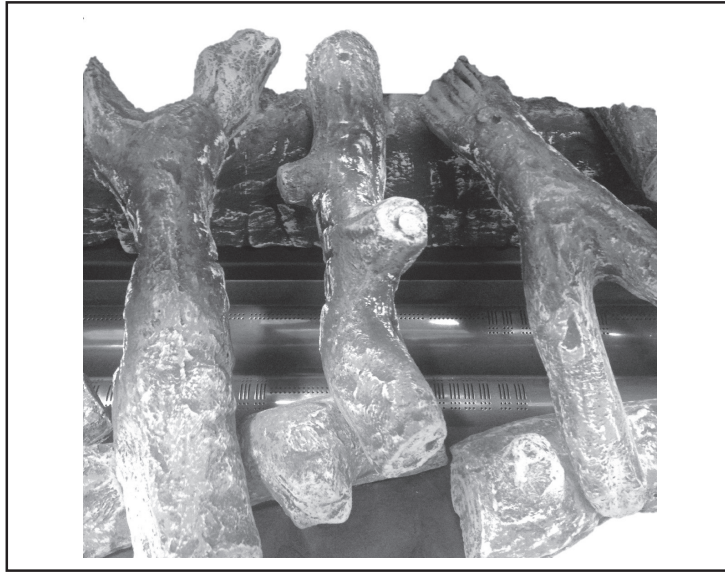

Fig. 18
**18.** Place log '15' across log '13' and at the rear log '2' so that it rests steadily in the recess, as shown in fig.18. Ensure there is a gap between log '14' and log '10' as shown.